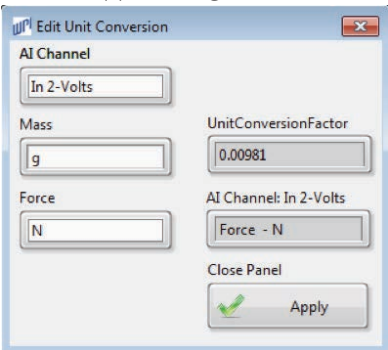

Fig. 43—Edit Unit Conversion window is used to convert mass into force units.
1. Choose the **Edit** menu and select **Unit Conversion**. The Edit Unit Conversion window appears (Fig. 43).